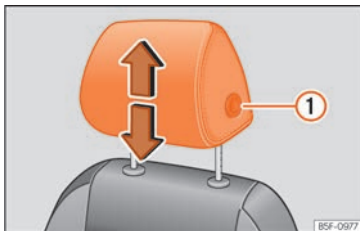
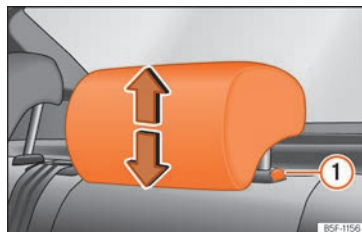

Fig. 75 Front seat: adjusting the head restraint.
Fig. 76 Rear headrest: adjusting the headrest.
- Grab the sides of the head restraints with both hands and push upwards to the desired position. To lower it, repeat the same action, pressing the button on the side ① >>> Fig. 75 , >>> Fig. 76.